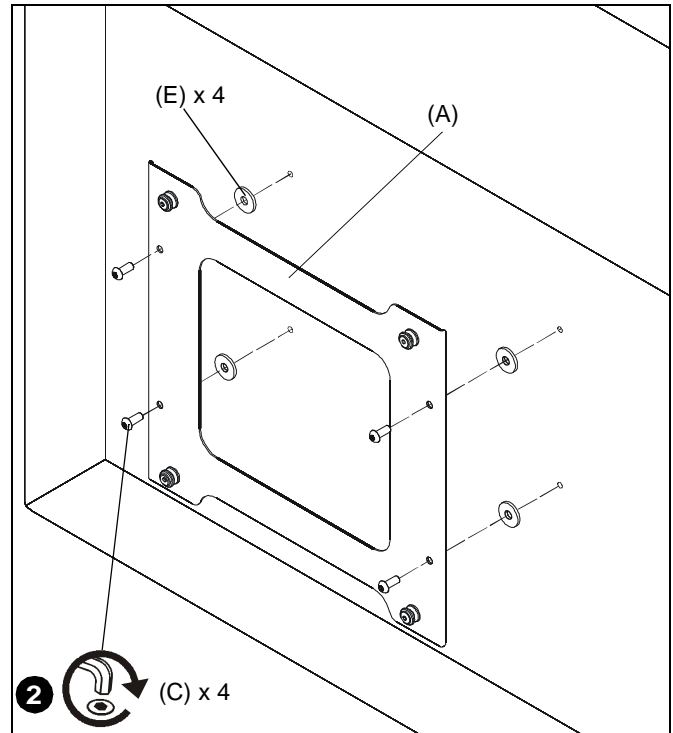

Figure 2
2. Attach interface bracket (A) to back of display using four M8 x 20mm button head cap screws (C), four washers (E) and M5 hex key (F). (See Figure 2)